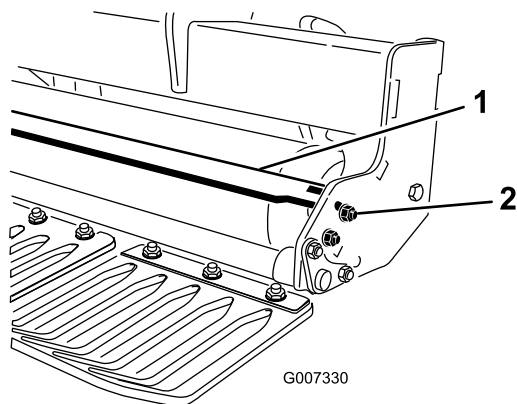

Figure 13
1. Loosen fasteners securing each end of scraper to roller scraper tab (Figure 13).